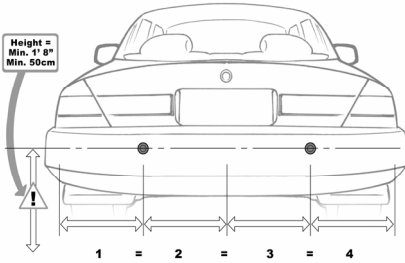

Figure 1 (2 sensors)
- b) Divide the bumper as shown in Figure 1 for a two sensor install or as shown in Figure 2 for a four sensor install.
- c) Install the sensors equally from the center of the bumper, as shown in Figure 1 and Figure 2.